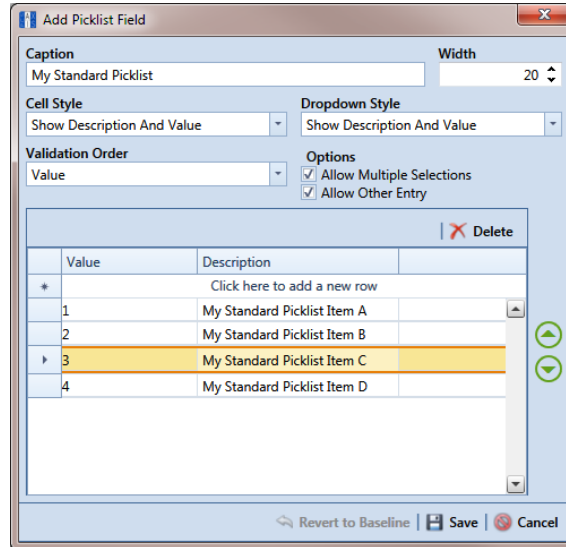

Figure 3-40. Add Picklist Field
- 6 When the *Add Picklist Field* dialog box opens, type a unique name for the UDF in the **Caption** field (Figure 3-40, page 82).
- a Click the message **Click here to add new row** to add an empty row of fields for data entry (Figure 3-40, page 82).